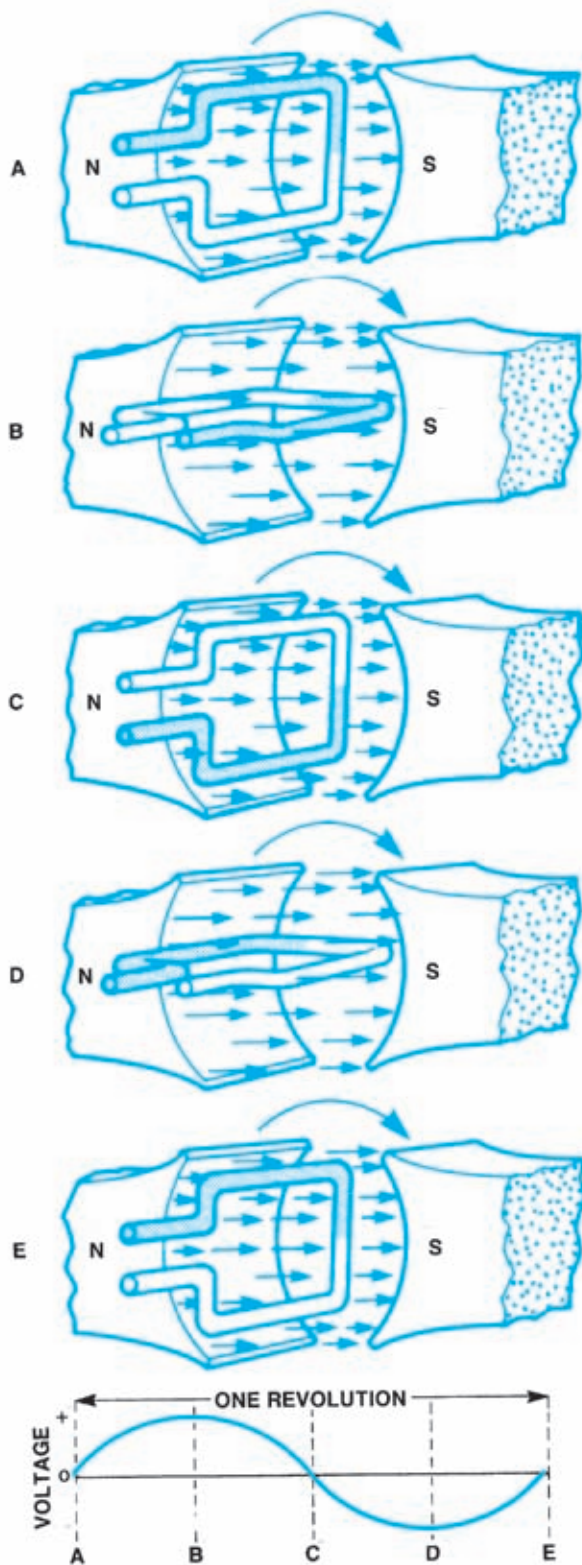

Figure 4-23. Direct current (DC) voltage generated in a rotating loop conductor.
The principles of electromagnetic induction are employed in generators for producing DC current. The basic components of a DC generator are shown in Figure 4-23. A framework composed of laminated iron sheets or an other ferromagnetic metal has a coil wound on it to form an electromagnet. When current flows through this coil, magnetic fields are created between the pole pieces, as shown. Permanent magnets could also be employed instead of the electromagnet.
When the wire loop makes a half-turn, the energy generated rises to a maximum level, then drops to zero, as shown in parts B and C of Figure 4-23. As the wire loop completes a full rotation the induced voltage would reverse itself and the current would flow in the opposite direction (AC current) after the initial half-turn. To provide for an output having a single polarity (DC current), a split-ring commutator is used. Thus, for the second half-turn, the carbon brushes engage commutator segments opposite to those over which they slid for the first half-turn, keeping the current in the same direction. The output waveform is not a steady-level DC, but rises and falls to form a pattern referred to as *pulsating DC*. Thus, for a complete 360-degree turn of the wire loop, two waveforms are produced, as shown in Figure 4-23.
The motion of a conductor may induce DC voltage across a stationary magnetic field. This is the principle used to change mechanical energy to electrical energy in a generator. A looped conductor is mechanically moved within the magnetic field created by stationary magnets, as in Figure 4-23. In Figure 4-23A, the voltage is zero because the conductor motion is parallel to the flux lines. As the conductor moves from A to B, the voltage increases because it is cutting across the flux lines. At B, the voltage is at a maximum because the conductor is moving at right angles to the flux lines, breaking the maximum number.
From position B to C, the voltage decreases to zero again because fewer lines are broken. At C, the conductor is again parallel to the flux lines. As the conductor rotates from C to D, voltage increases. However, the induced voltage is in the opposite direction because the conductor is cutting the flux lines in the opposite direction. From position D to E, the cycle begins to repeat. Figure 4-23 shows how voltage is induced in a loop conductor through one complete revolution in a magnetic field. The induced voltage is called alternating current (AC) voltage because it reverses direction every half cycle, as shown on the graph at the bottom of the figure. Because automotive battery voltage is always in one direction, the current it produces always flows in one direction. This is called direct current (DC). Alternating current cannot be used to charge the battery, so the AC must be changed (rectified) to DC. This is done in a generator by the commutator. In a simple, single-loop generator, the commutator would be a split ring of conductive material connected to the ends of the conductor. Brushes of conductive material ride on the surface of the two commutator segments.